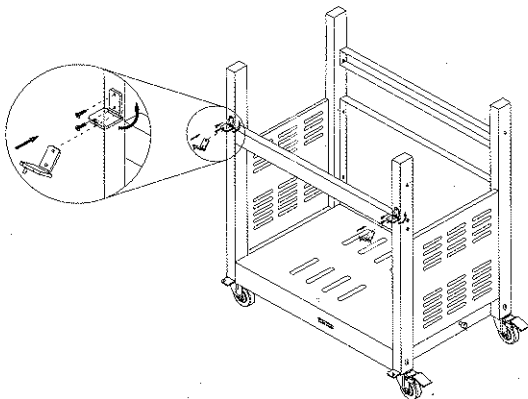

Figure 6
1. Attach door fixing tabs to square legs by using 5/32" x 10mm philips head screws. (Fig.6)